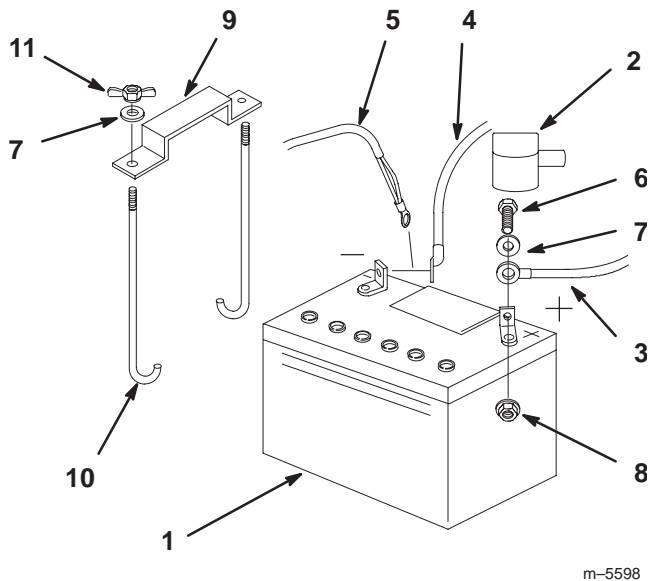

Figure 55
- Position battery in tray with terminal posts toward the engine (Fig. 55).
- Secure cables with 2 bolts (1/4 x 3/4 in.), 2 washers (1/4 in.), and 2 locknuts (1/4 in.) (Fig. 55).
- Secure battery with J-bolts, hold down clamp and 2 washers (1/4 in.), and 2 wing nuts (1/4 in.) (Fig. 55).
- First disconnect the negative battery cable and ground wire from the negative (-) battery terminal (Fig. 55).
- Slide the red terminal boot off the positive (red) battery terminal. Then remove positive (red) battery cable (Fig. 55).
- Remove both wing nuts (1/4 in.) securing the battery clamp (Fig. 55).